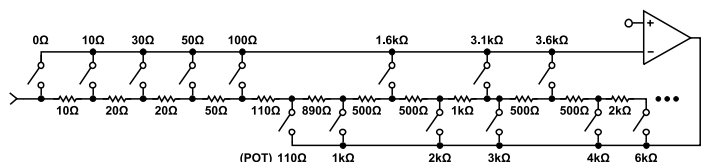
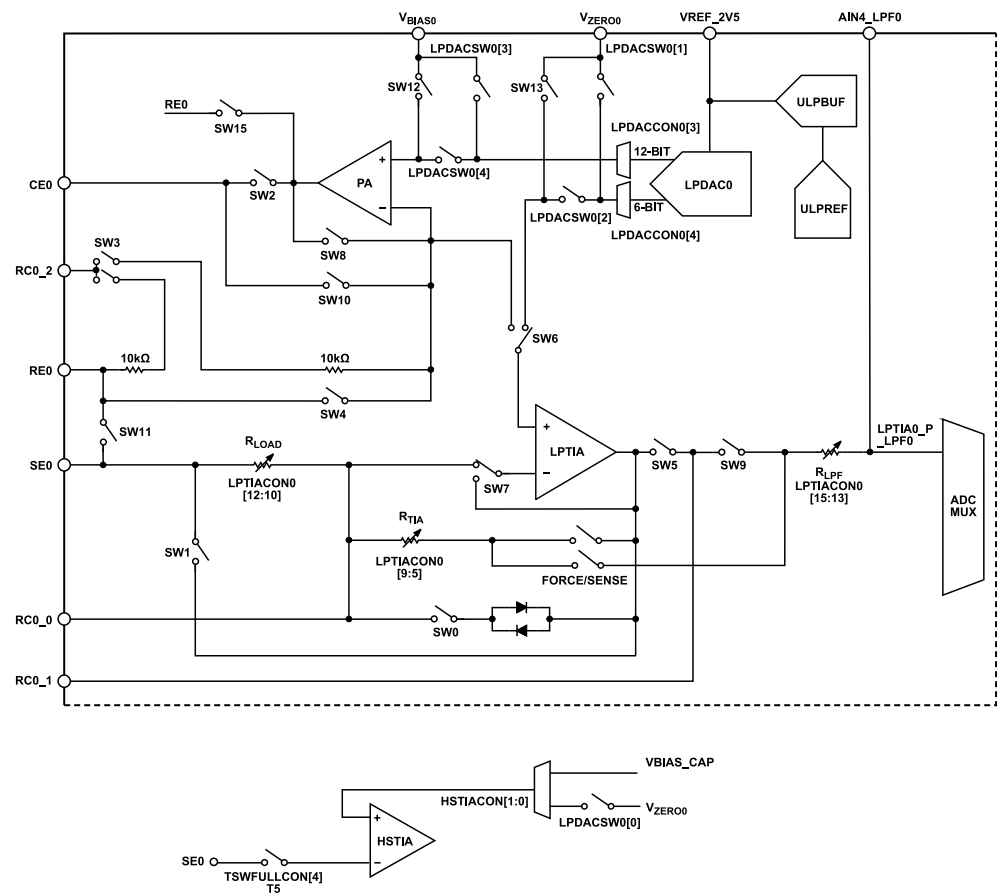

Figure 21. LPTIA R_{LOAD} and R_{GAIN} Configuration
Figure 22. Low Bandwidth Loop Switches
trix section for details). There are a number of configurable switch options around the potentiostat to provide numerous configuration options (see Figure 22).
The potentiostat can also be used a standard buffer output to output V_{BIAS0} voltage onto CE0. To achieve this, the inverting input is connected to the output of the potentiostat by closing the SW10 switch, as shown in Figure 22.
There are a number of switches around the low power TIA circuitry. The LPTIASW0 register configures these switches. Figure 22 shows the available switches. When the TIAGAIN bits (Bits[9:5]) in the LPTIACON0 register are set, these switches are closed automatically. When these switches are closed, there is a force/sense circuit with a low-pass filter resistor (R_{LPF}) and a capacitor on the AIN4/LPF0 pin that acts as a resistor-capacitor (RC) delay circuit. The LPTIA0_P_LPF0 connects the output of the low power TIA low-pass filter to the ADC mux. Analog Devices recommends that the LPTIA0_P_LPF0 mux option be selected as the ADC input when using the low power TIA. It is recommended to connect a 100 nF capacitor between the RC0_0 pin and the RC0_1 pin to stabilize the low power TIA.
The LPTIACON0[9:5] bits select different gain resistor values for the low power TIA, labeled as R_{TIA} in Figure 22. The force and sense connections shown on the feedback path of the low power TIA are used to avoid voltage ($I \times R$) drops on the switches, which select different R_{TIA} settings for the internal R_{TIA} .
Table 21 describes the recommended switch settings in the low power potentiostat loop for various measurement types. For all measurement types, setting the switch to 1 closes the switch and setting the switch to 0 opens the switch. LPTIASW0[13:0] controls SW13 to SW0, as shown in Figure 22. Figure 21 shows the relationship between the R_{LOAD} and R_{GAIN} settings for the LPTIA. R_{LOAD} is configured by setting LPTIACON0 [12:10]. R_{GAIN} is configured by LPTIACON0[9:5]. When R_{LOAD} is large, it uses resistors from the R_{GAIN} bank, reducing the size of R_{GAIN} . See descriptions in the LPTIACON0 bit fields (Table 22 and Table 24) for details.